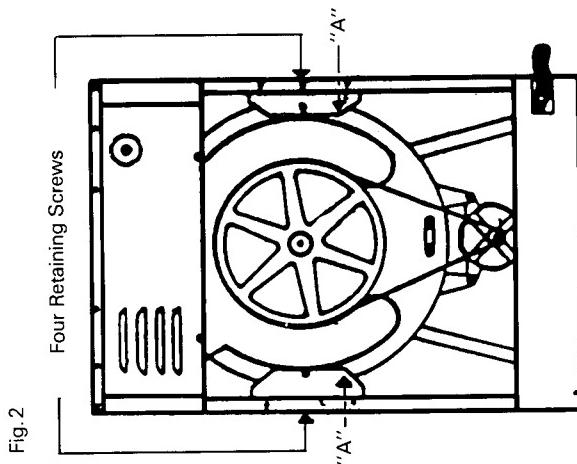

Fig. 2
4. Remove the four retaining screws from the transit brackets (see Fig. 2).
5. Remove the two transit brackets marked 'A' from the machine (see Fig. 2). Moving the two tub unit slightly to the left or right will help when removing the brackets.